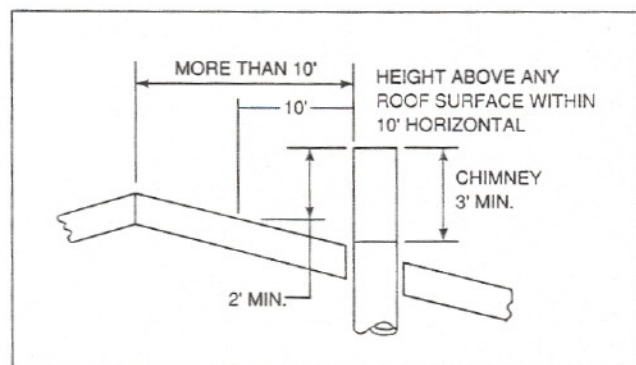

Figure 11
2. If the horizontal distance from the side of the chimney to the peak of the roof is more than 10 feet, a chimney height reference point is established on the surface of the roof a distance of 10 feet from the side of the chimney in a horizontal plane. The top of the chimney must be at least 2 feet above this reference point, but never less than 3 feet in height above the highest point where it passes through the roof. See Figure 11.